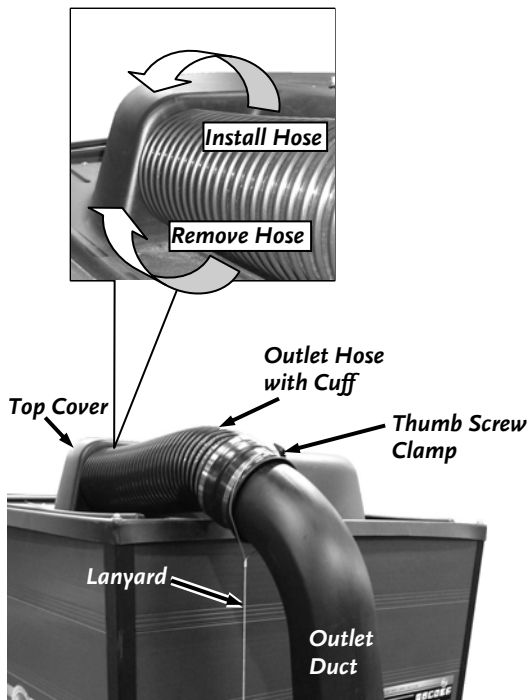

Figure 41
1. Slide the Lanyard off the Hose Cuff and onto the Outlet Duct (**Figure 41**).